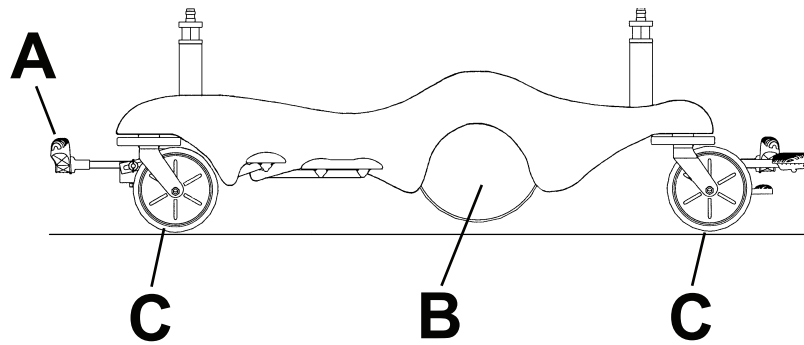

Figure 9 – Transporting without Big Wheel
1. Put the brake/steer pedal (A) in the neutral position (Figure 9).
- With the product in the neutral position, **Big Wheel** (B) is elevated and the product rests on all four casters (C) (Figure 9). In this position, you can move the product in any direction, including sideways.